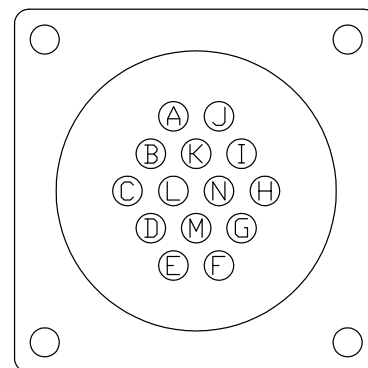

Figure 5-11-1
9. The UV Lamp Sockets are numbered 1 through 6. The wire from each UV Lamp Socket is wired back to the Pinned Receptacle and connected to a pin labeled A through N (refer to Figure 5-11-1). There are two UV Lamp Sockets with wire per Lamp. One is called the UV Lamp Socket Long Wire, the one that runs to the opposite end of the Pinned Receptacle. The other is called the UV Lamp Socket Short Wire, the one that is at the end with the Pinned Receptacle. Identify the wire by number to be replaced.
15. Push the soldered wire pin into the base of the Pined Socket, for both the Short and Long Wire, at the appropriate letter socket. Refer to Table T-5-11-1 and Figure 5-11-1.